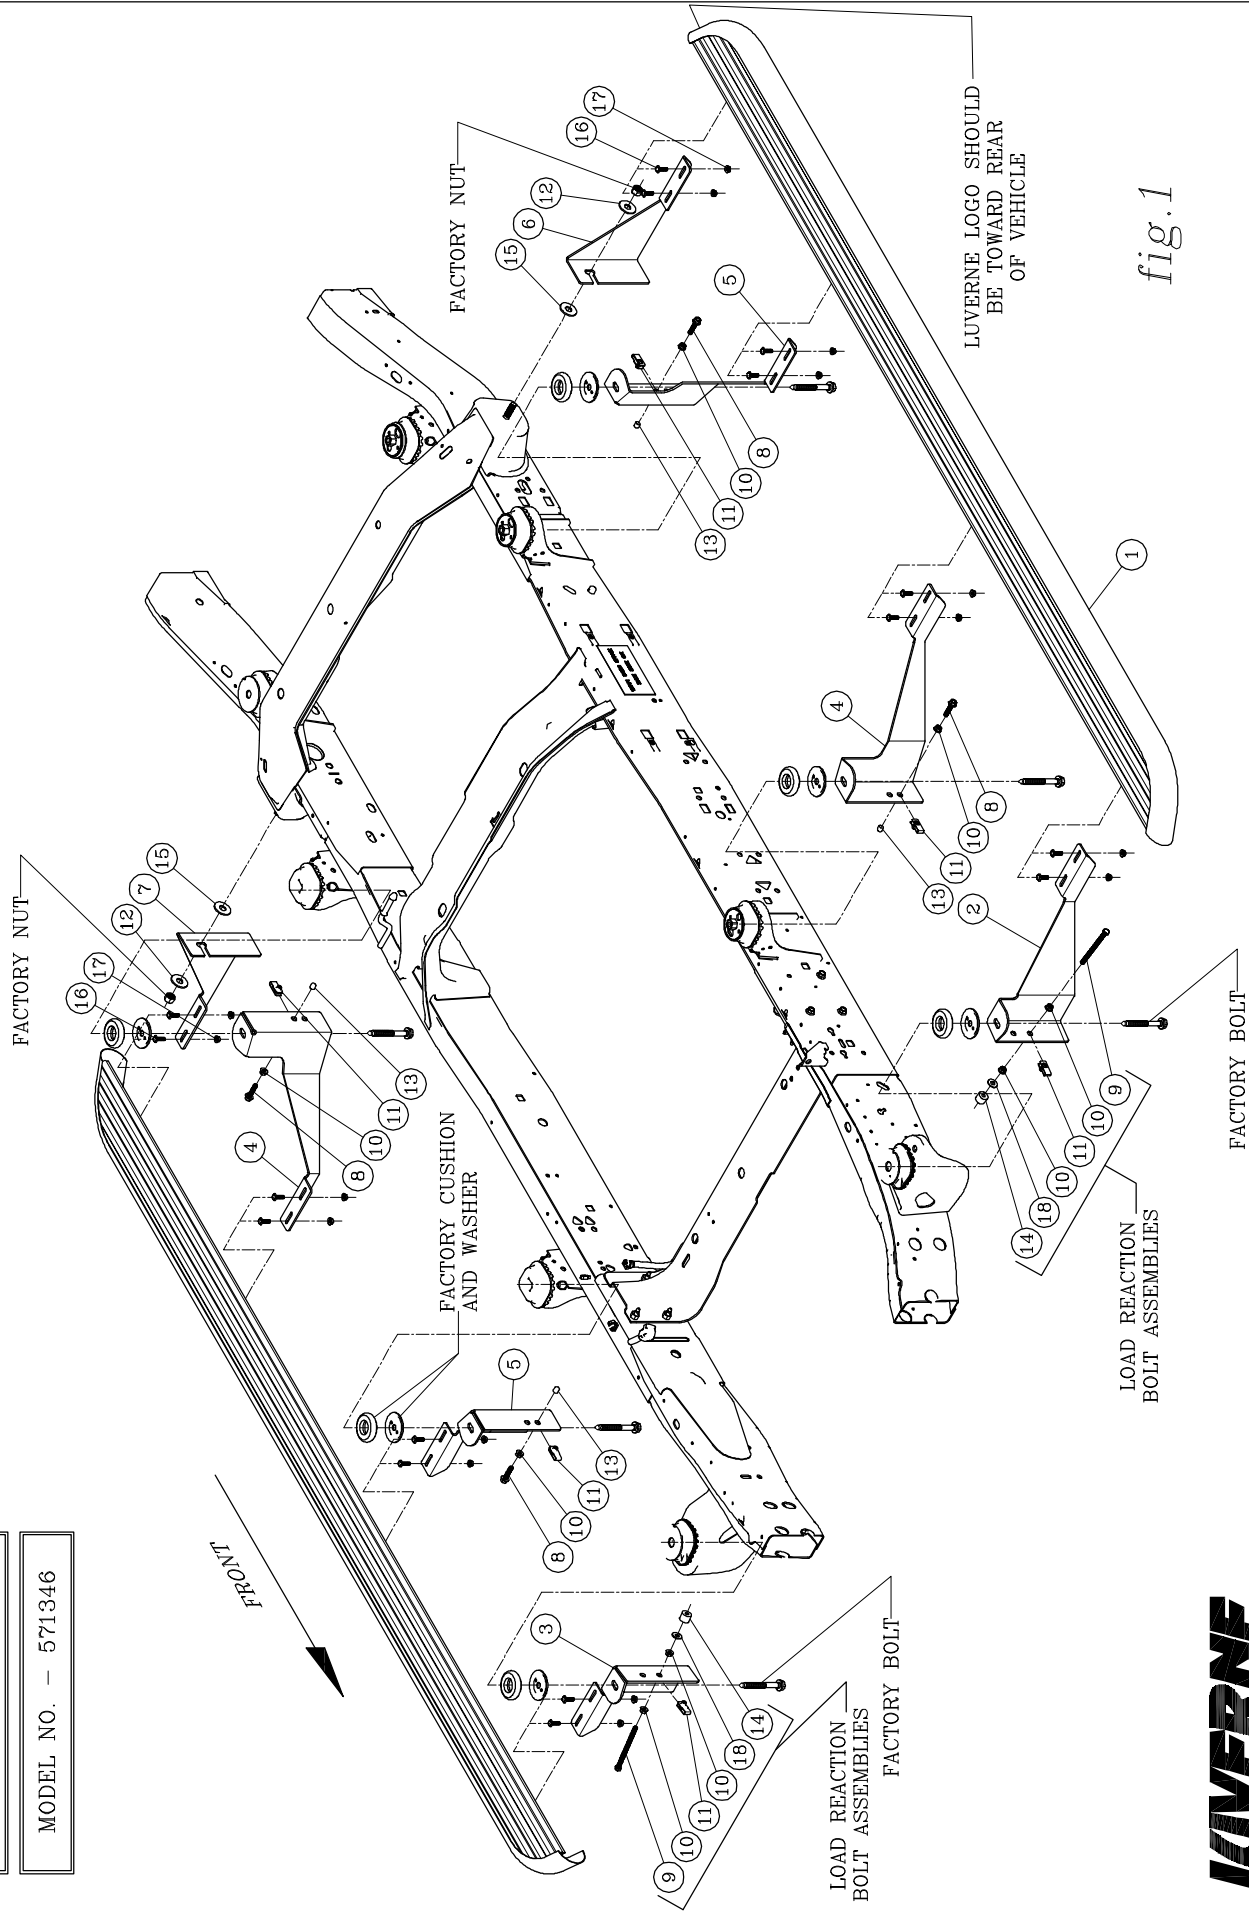

fig.1
4. INSTALL A 3/8"-16 SERRATED FLANGE NUT (ITEM #10) ON THE 3/8"-16 X 5" HEX BOLT (ITEM #9) WITH THE FLANGE FACING TOWARD THE END OF THE BOLT AND TURN ON JUST SHORT OF THE HEAD. SCREW THE BOLT INTO THE U-NUT AND WHEN IT COMES THROUGH THE OTHER SIDE START ANOTHER FLANGE NUT FACING THE AS THE FIRST NUT. TURN THE NUT ON UNTIL THERE IS 3/4" PROTRUDING FROM THE FACE OF THE NUT, INSTALL A 3/8" FLAT WASHER (ITEM #18) AND THE .354 X 1.00 X .748 RUBBER WASHER (ITEM #14) INTO THE END OF THE BOLT. ADJUST THE LOAD REACTION BOLT ASSEMBLY SO THAT THE RUBBER CUSHION IS SNUG AGAINST THE FRAME AND TIGHTEN DOWN THE OUTSIDE FLANGE NUT. (LOAD REACTION BOLT ASSEMBLY) AS SHOWN IN *fig. 1*.
8. INSTALL A 3/8"-16 SERRATED FLANGE NUT (ITEM #10) ON THE 3/8"-16 X 1-3/4" HEX BOLT (ITEM #8) WITH THE FLANGE FACING TOWARD THE END OF THE BOLT AND TURN ON JUST SHORT OF THE HEAD. SCREW THE BOLT INTO THE U-NUT AND WHEN IT COMES THROUGH THE OTHER SIDE ADJUST THE LOAD REACTION BOLT ASSEMBLY SO THAT THE RUBBER PLUG IS SNUG AGAINST THE FRAME AND TIGHTEN DOWN THE OUTSIDE FLANGE NUT. (LOAD REACTION BOLT ASSEMBLY) AS SHOWN IN *fig. 1*.